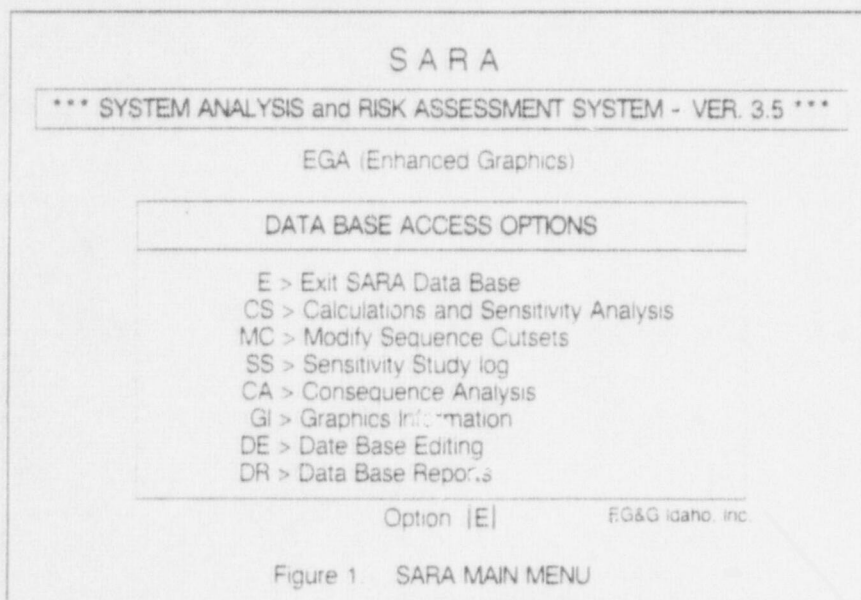

Figure 1. SARA MAIN MENU
The code is completely menu driven, and an overview of its primary features can be captured from its main menu (Figure 1), the first of many hierarchical fill-in-the-blank screens. The Calculations and Sensitivity Analysis (CS) option accesses the main facility and lets the user temporarily change one or more basic event and/or initiator frequencies, error factors, and correlation numbers, and then recalculate frequencies, importance measures and (if desired) uncertainty bands on the resulting mean values. Using the CS option, it is possible to observe hypothetical effects such as degraded component reliability or change in operational procedures on core damage frequency.